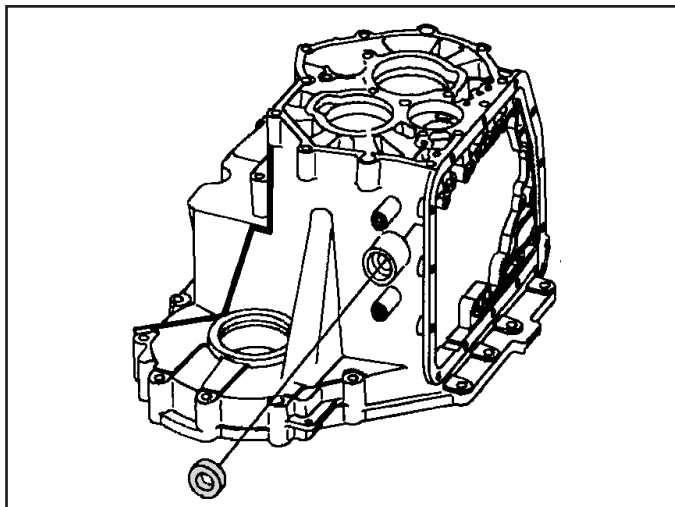

Figure 191
6. Install a new linkage seal and lubricate with petroleum jelly (See Figure 191).